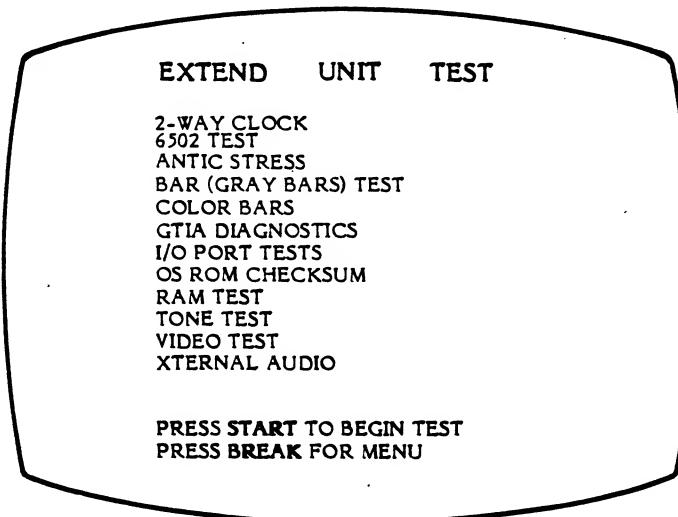

Figure 2-27. Extended Unit Test Screen
The bottom of the screen shows the options. The first character of each test selects that test. The RETURN key ends entry of choices and causes diagnostics to use only those tests during EXTEND UNIT TEST. Use the DELETE key to erase choices listed at the bottom of the screen just behind the cursor. **Note:** If 2-WAY CLOCK TEST (2) and 6502 TEST (6) are not desired, DELETE must be used to erase all choices. Then each character except 2 and 6 (ABCGI0RTVX) must be pressed followed by a RETURN. Press the BREAK key and return to the EXECUTIVE MENU. Press SELECT to move pointer to the EXTENDED UNIT TEST. Press OPTION to display the EXTENDED UNIT TEST menu shown below (See Figure 2-27).